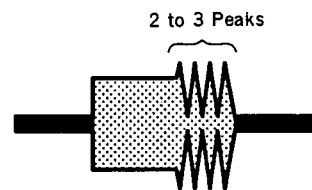

Fig. 2
- (2) Check that the RF waveform at the exit side has 2 to 3 peaks in this condition. If not, adjust as follows. (fig. 2)